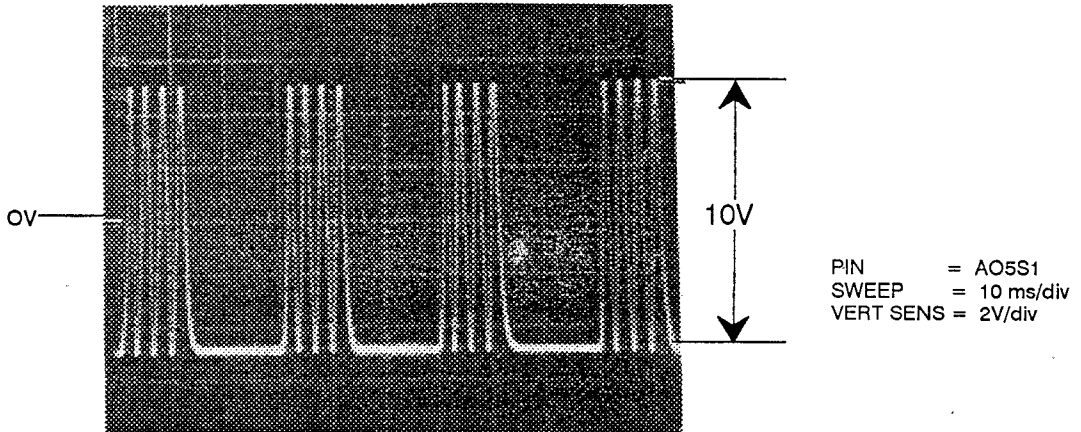

FIGURE 4.3
4.2.7 Cosine Amplitude (CA) and Offset (CO) Figure 4.3.
2. Observe A05S1 (COS POSITION) for a scope display similar to that shown in Figure 4.3. The waveform amplitude must be  $10 \text{ Vdc} \pm 1 \text{ volt}$  peak to peak and symmetrical about ground.